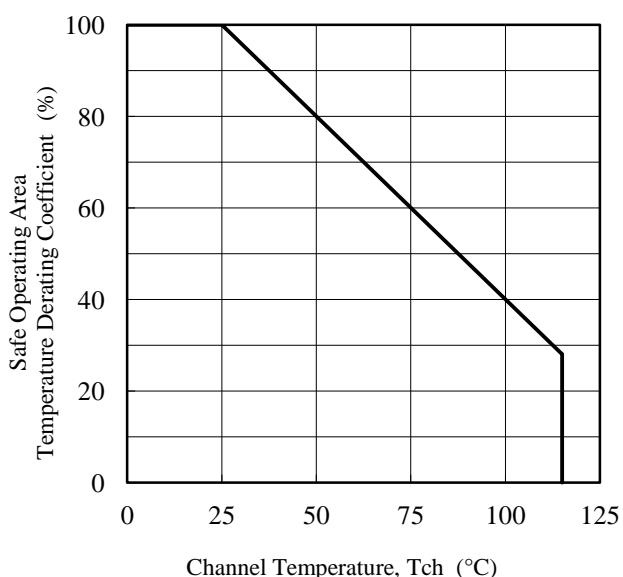

Figure 3-1 SOA Temperature Derating Coefficient Curve
- When the IC is used, the safe operating area curve should be multiplied by the temperature derating coefficient derived from Figure 3-1.